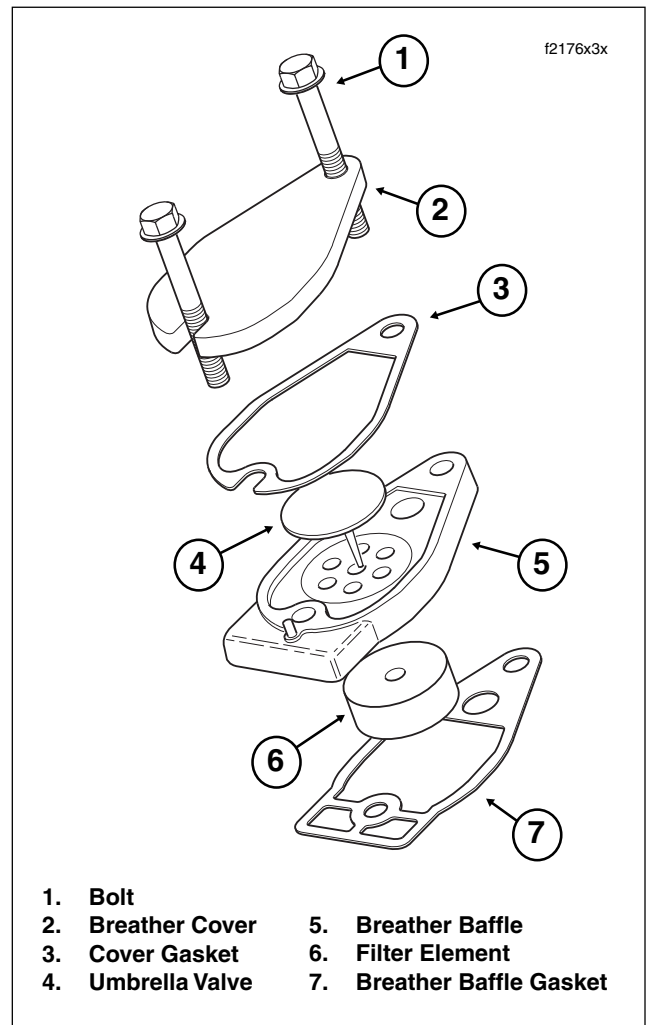

Figure 3-57. Breather Assembly
1. Remove two bolts and lift breather assembly from rocker arm support plate. See Figure 3-57.